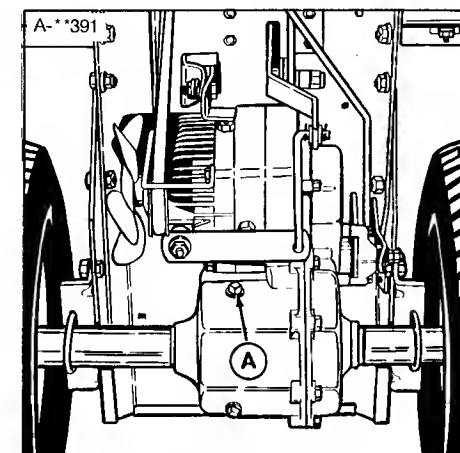

Figure 21. Differential Check Plug
2. Remove the check plug (figure 21) by turning counterclockwise. Oil level should be at bottom of hole. If not, add